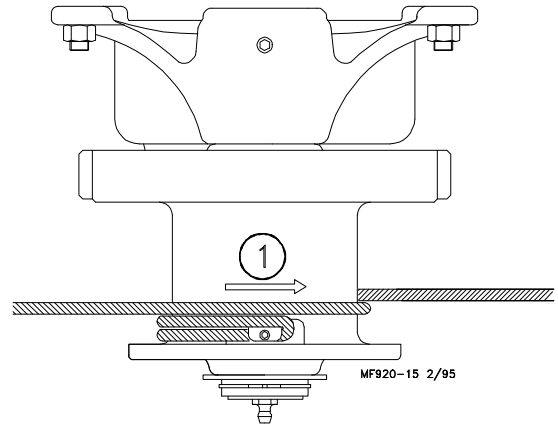

Figure 40. (End View)
- Turn the winch drum one full revolution. Guide the cable against the flange at the bottom of the winch drum. The cable must not wrap over itself on the drum, but should be wrapped as close as possible to each previous wrap. See **Figure 40**.